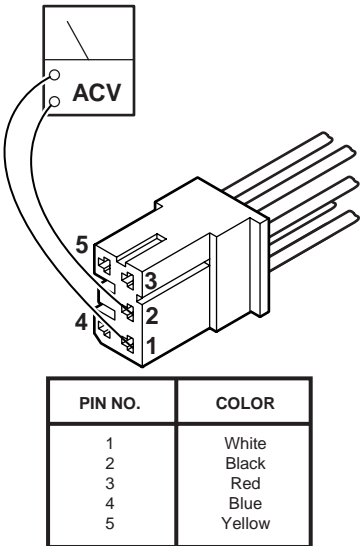

Figure 5-2. Connector CN4
- 3. Use an AC voltmeter capable of measuring 120 VAC and measure the voltage between pins 1 and 2 (black and white wires) located in connector CN4. See figure 5-2. You should receive line voltage 120 VAC.